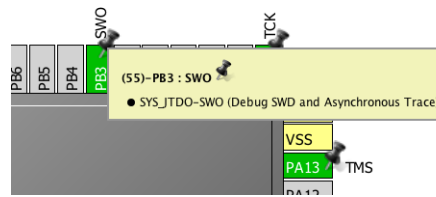

Figure 5: Contextual tool-tips help understanding signal usage
A contextual tool-tip is shown moving the mouse pointer over the MCU pins (see **Figure 5**). For example, contextual tool-tip for pin PB3 says to us that the signal is mapped to *Serial Wire Debug* (SWD) interface and it acts as *Serial Wire Output* (SWO) pin. Moreover, the pin number (55) is also shown.